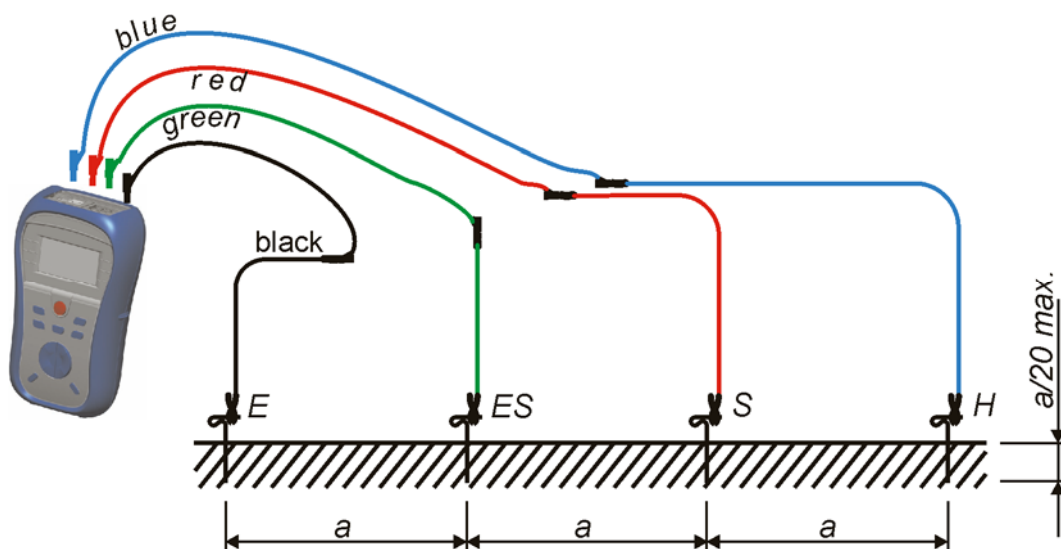

Figure 5.9: Specific earth resistance measurement
- **Connect** the test accessory to the item to be tested (see figure 5.9).